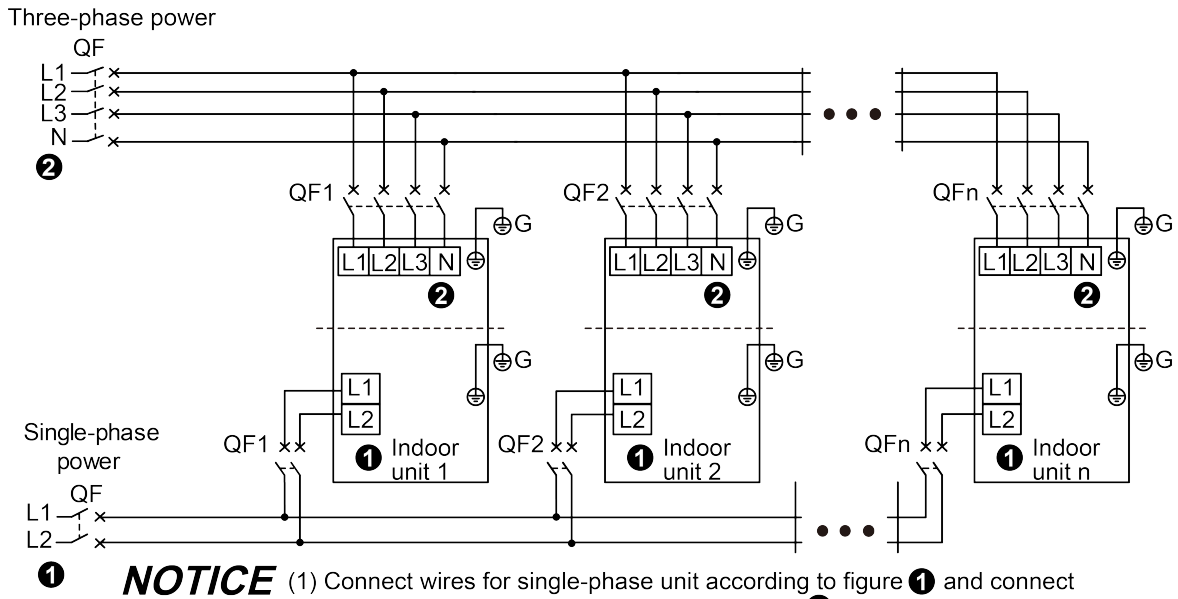

Fig.5.2.1
- (1) Detach the electric box lid.
- (2) Let the power cord pass through the wiring through-holes.
- (3) Connect wires according to Fig. 5.2.1.
- (4) Fix the power cord with wiring clamp.
- (5) The wire diameter of power cord can not be less than 18AWG.